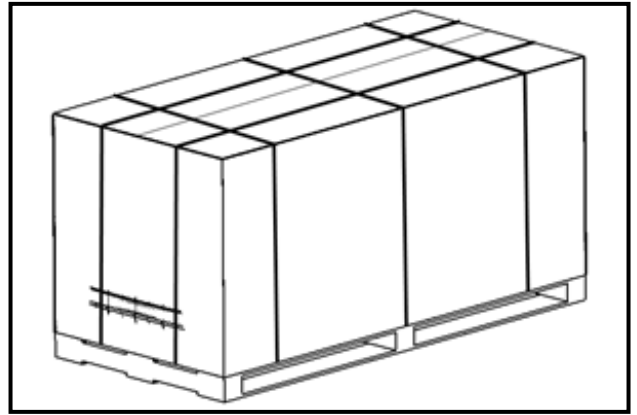

Fig. 1
1. Locate an open area to unbox the packaged TreadClimber® (Fig.1).